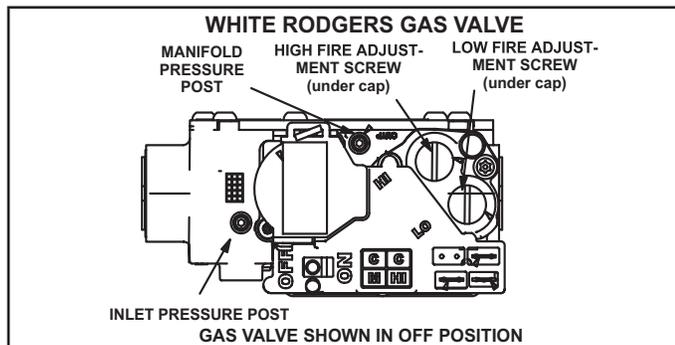
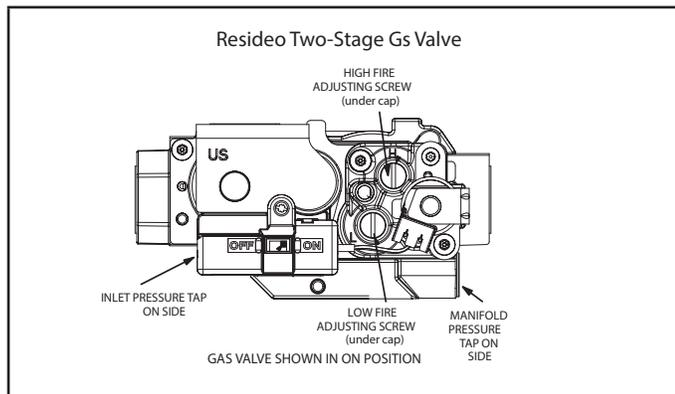
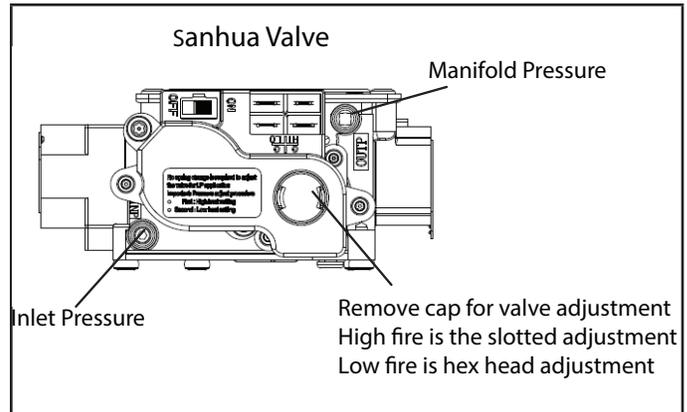

FIGURE 10
FIGURE 11
FIGURE 12
- 6 - Move the switch on the gas valve to OFF. Do not force the switch. See FIGURE 10, FIGURE 11 and FIGURE 12.
- 7 - Wait five (5) minutes for any gas to clear out. If you then smell gas, **STOP!** Immediately call your gas supplier from a neighbor's phone. Follow the gas supplier's instructions. If you do not smell gas, go to the next step.
An inlet pressure post located on the gas valve provides access to the supply pressure. See FIGURE 10, FIGURE 11 and FIGURE 12. Back out the 3/32 (5/64 Sanhua) hex screw one turn, connect a piece of 5/16 tubing and connect to a manometer to measure supply pressure. Check supply pressure with unit on high fire. On multiple unit installations, check each unit separately and with other units operating. See TABLE 2 for supply line pressure. Following supply pressure test, shut off unit, remove manometer and tighten pressure post hex screw.
All units - A manifold pressure post located on the gas valve provides access to the manifold pressure. See FIGURE 10, FIGURE 11 and FIGURE 12. Back out the 3/32 (5/64 Sanhua) hex screw one turn, connect a piece of 5/16 tubing and connect to a manometer to measure manifold pressure.
- 5 - FIGURE 10, FIGURE 11 and FIGURE 12 show location of low fire adjustment screw. Repeat on high fire and compare to value given in TABLE 2. If necessary, make adjustment. FIGURE 10, FIGURE 11 and FIGURE 12 show location of high fire adjustment screw.